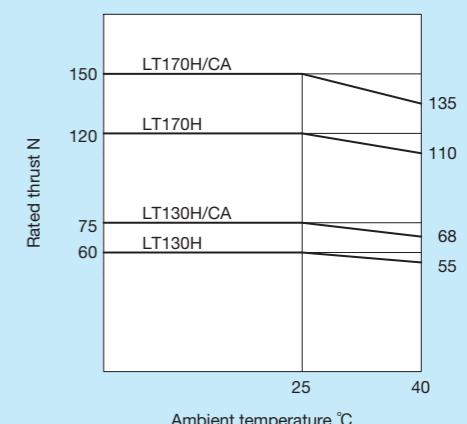

Fig. 11 Rated thrust characteristics of LT···H
(2) In the case where the unit is fixed on a steel-made cradle under ambient temperature of 0 to 25°C. For more information, please see Fig. 11 on page II-294.